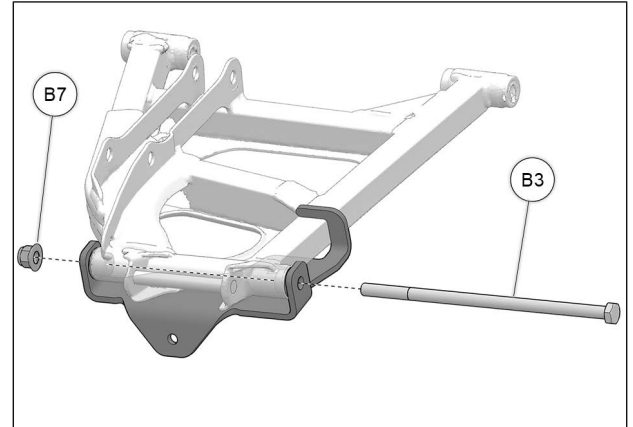

Fig. 7
7. Insert M12x260mm bolt (B4) through anchor bracket, step bushings and suspension arm. Secure with supplied M12 nut (B7). Tighten to 90 Nm [66 lb•ft]. See Fig. 7